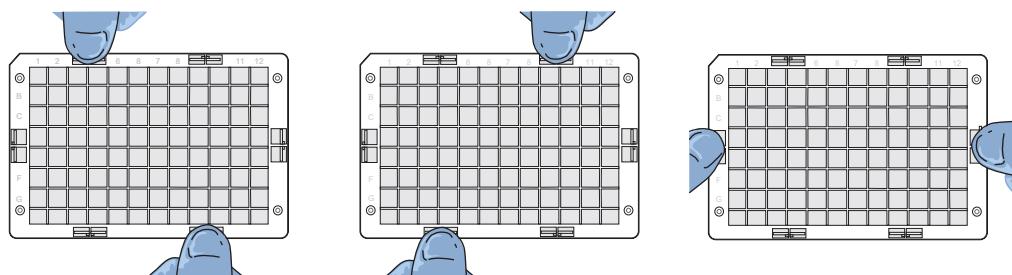

Figure 11 Clamping verification steps.
5. Verify the plate clamping step to ensure that the array plate is securely fastened to the hybridization tray. Remove the plate stack from the drawer and place on a bench top. Using your thumbs, press the array plate downward following the positions that are specified in Figure 11. *No clicking sound indicates proper clamping.*